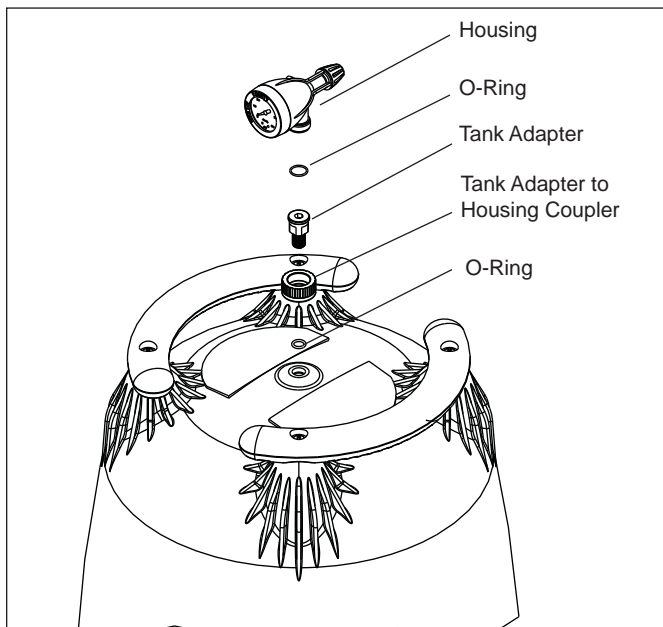

Figure 5. Pressure Gauge/Air Release Assembly
- a. Place the smaller, thicker o-ring onto the threads of the tank adapter (see Fig. 5). Slide the tank adapter through the coupling nut and into the filter tank. Use the flats on the tank adapter to tighten. Do not overtighten.